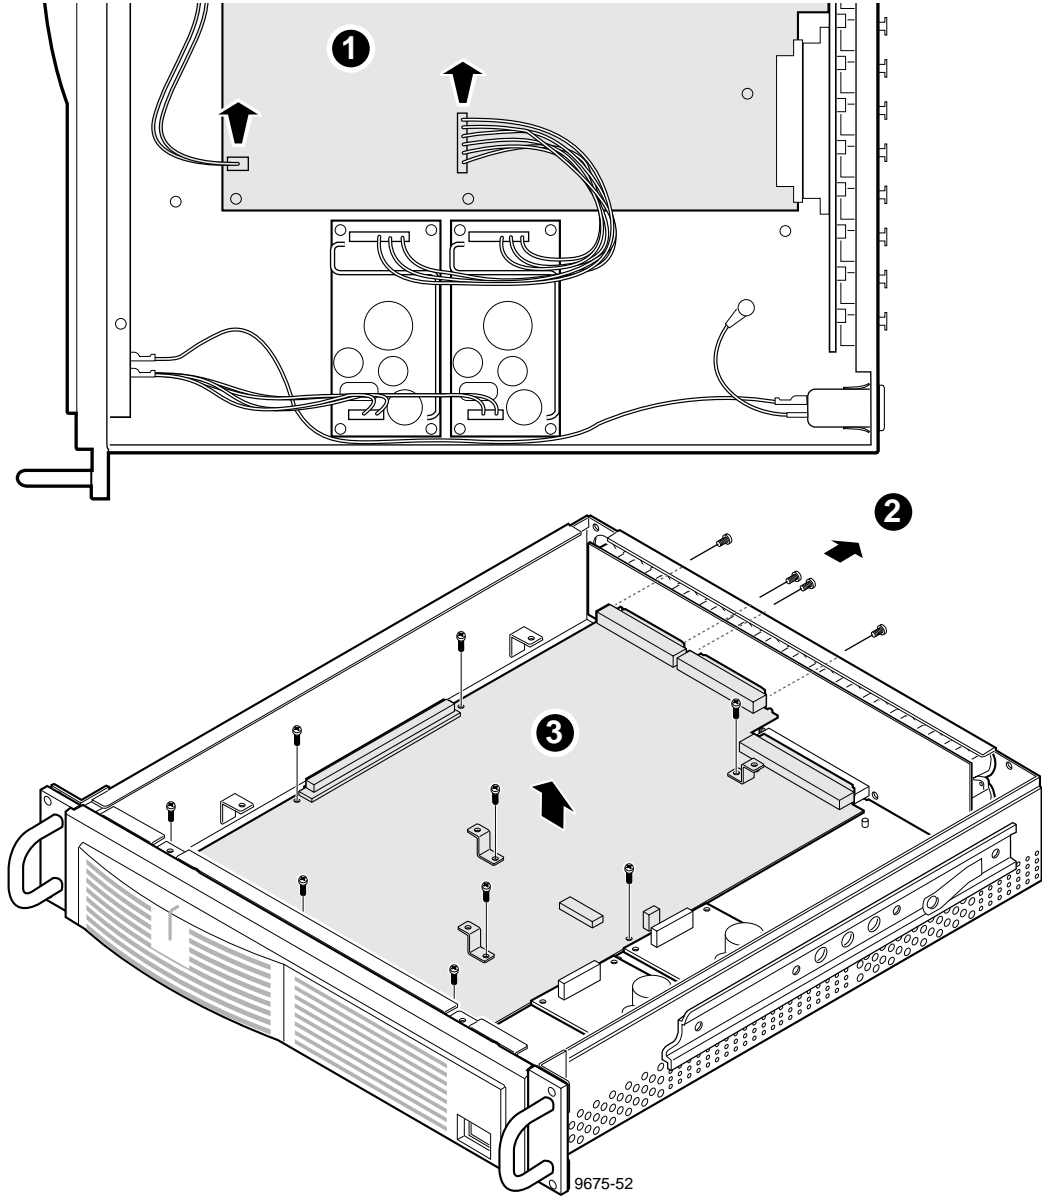

Figure 6-37. PAC208/216 Main Board Removal
3. Disconnect the cables from the Main Board (1 in Figure 6-37).
5. Use the small Phillips screwdriver to remove the screws from the rear panel (2 in Figure 6-37).
6. Use the Torx tool with the T15 tip to remove the screws which secure the Main Board to the stand-offs on the bottom of the chassis. Note that three of these screws also attach Daughter Board stand-offs to the Main Board (3 in Figure 6-37).
1. Being sure to clear rear panel connectors, carefully reconnect the Main Board to the XLR Board connector, and align the board screw holes with the stand-offs on the bottom of the chassis (Figure 6-37).